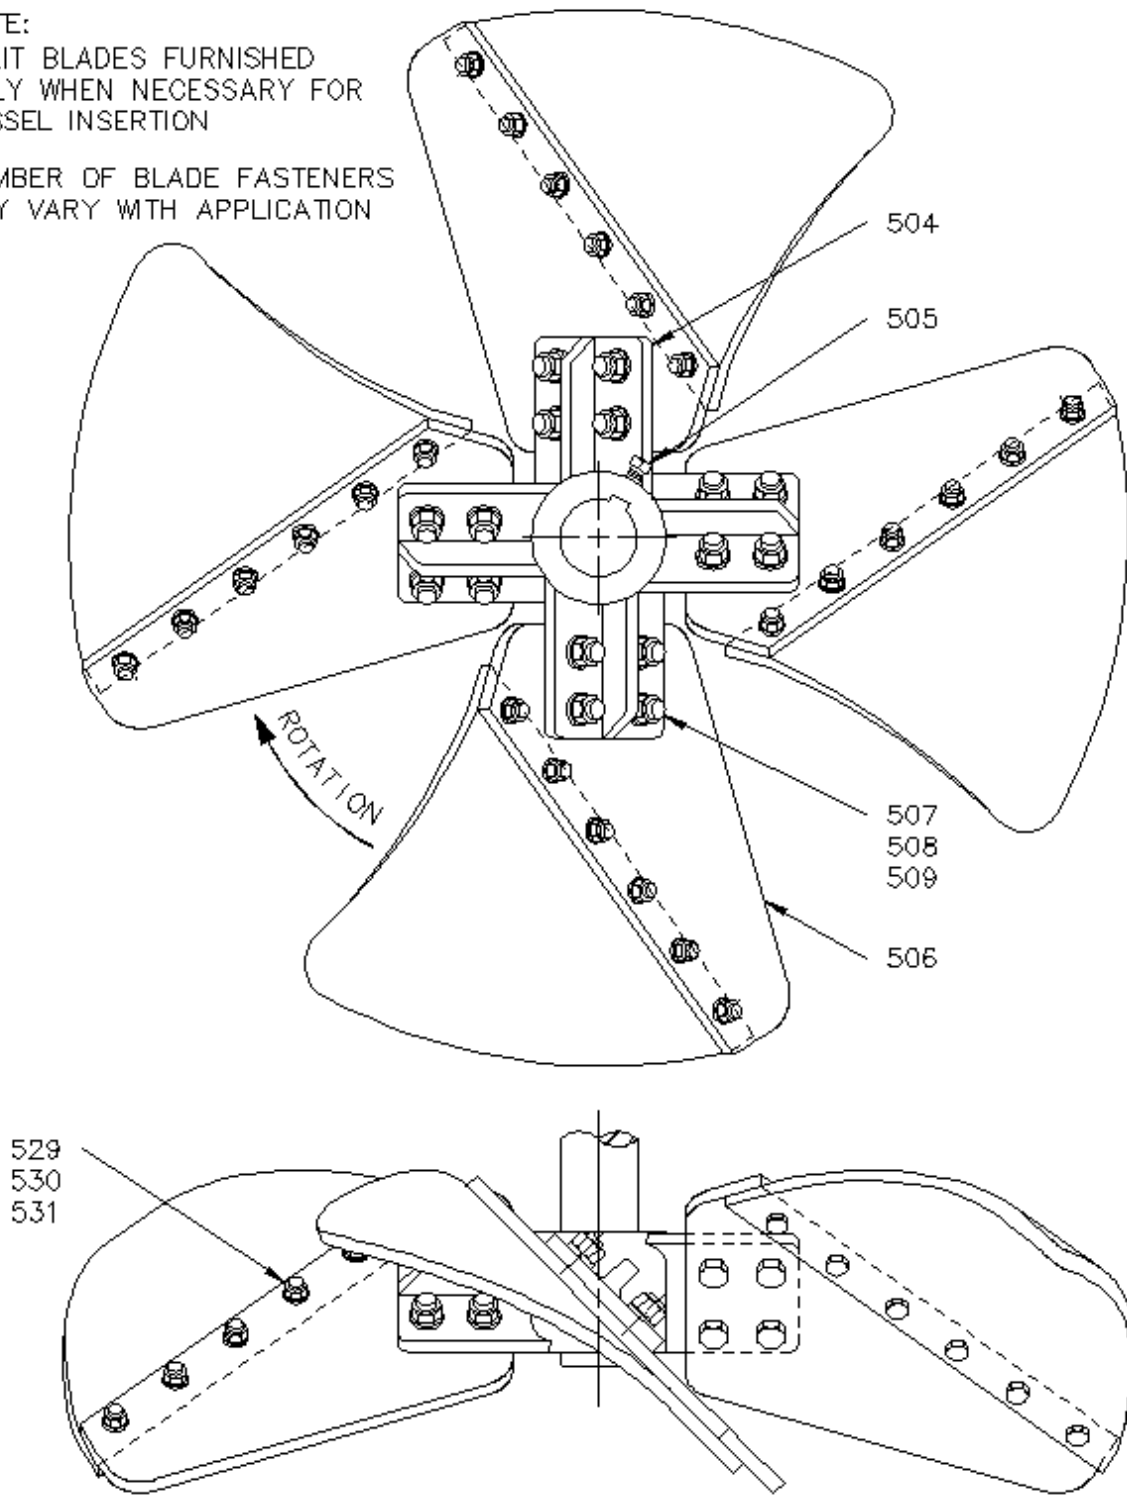

Figure 24. Style Maxflo W Impeller
4. Bolt extension blades [506] to the hub [504] with bolts, nuts and lockwashers [507, 509, 508]. Refer to Figure 18 through Figure 24, page 37 through 43. Bolt split blades, if furnished, to extension blades with bolts, nuts and lockwashers [529, 531, 530]. Bolt stabilizer fins [510], if furnished, to extension blades with bolts, nuts, and lockwashers [511, 513, 512]. Torque bolts to the value shown in Table 12, page 101.